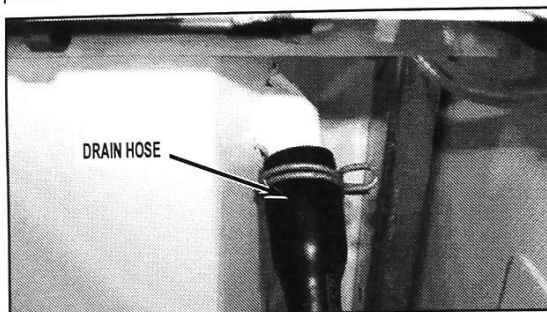

FIGURE 6
9. Remove the drain hose shown in *Figure 6* from the drain hose connector located on the rear panel in the upper right hand corner of the washer. Secure drain hose in an upright position to avoid water running out of the hose.